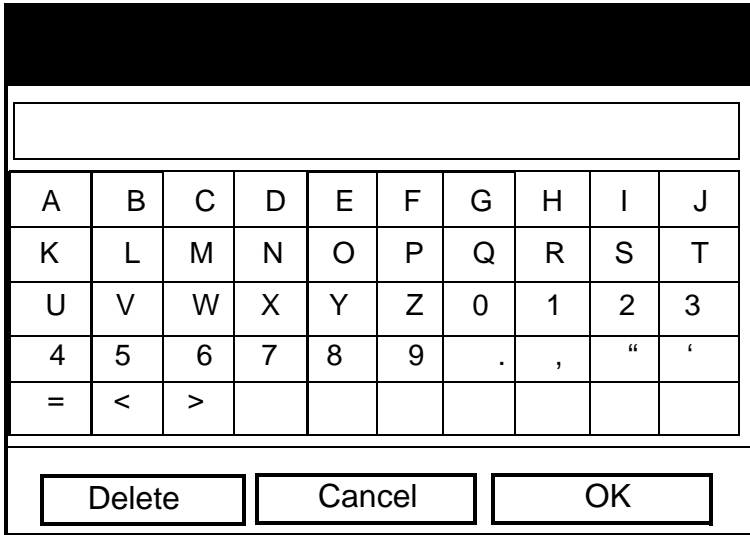

Figure 27: Text Creation Window
- a. Press [ENTER] to enter the text box. The text creation window appears, as shown in Figure 27 below.